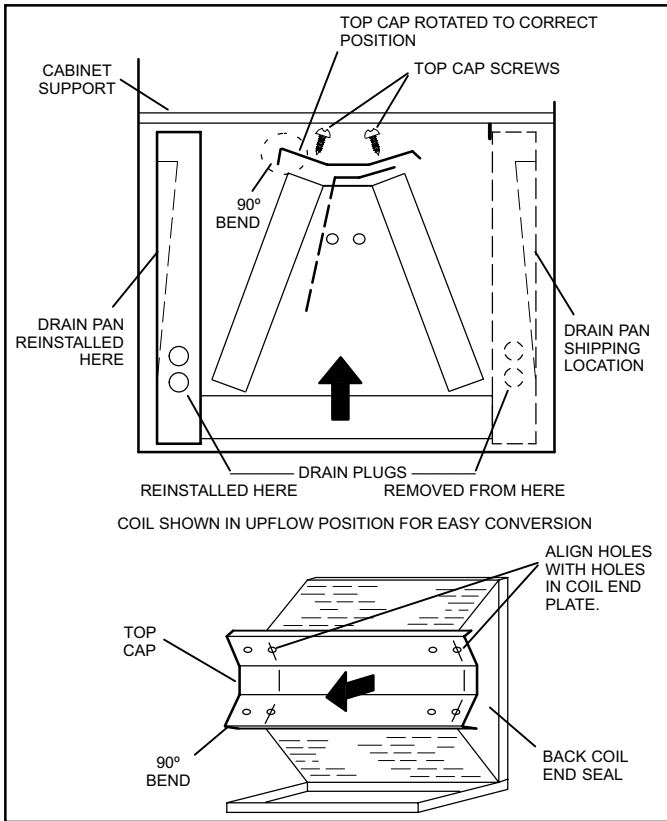

Figure 4. Field Modification for Left-Hand Air Discharge
4. Remove screws from top cap. Remove horizontal drip shield screw located in the center of the back coil end seal as illustrated in Figure 4.
7. Rotate top cap 180° front-to-back and align with unused screw holes. Holes must align with front and back coil end plates. The top cap has a 45° bend on one side and a 90° bend on the other. The 90° bend must be on the same side as the horizontal drain pan as illustrated in Figure 4.
8. From the upflow position, flip cabinet 90° to the left and set into place. Replace coil assembly. Secure coil in place by bending down the tab on the cabinet support rail as illustrated in Figure 4.